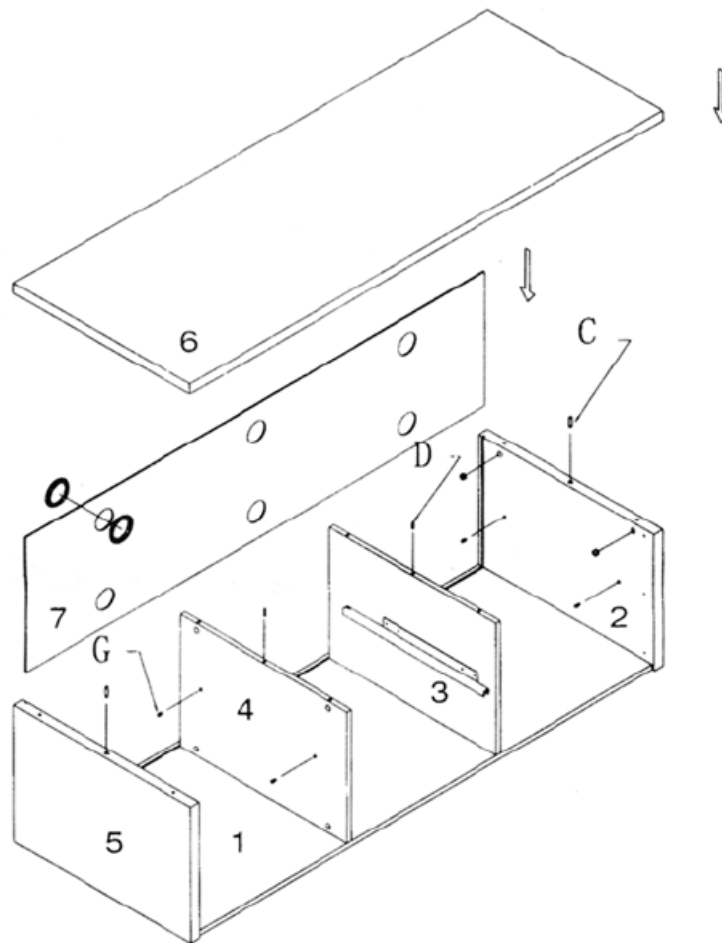

Fig. 2
9. CAREFULLY INSERT the back panel, part (7), into the grooves in the side panels (2) and (5) and CAREFULLY SLIDE the back panel down until it sits into the groove along the rear edge of panel (1) as shown in Fig. 2.
11. USING TWO PEOPLE, CAREFULLY lower the top panel (6) onto the unit making sure that the wood dowels (C) and (D) atop the end panels (2) and (5), and interior panels (3) and (4) are ALIGNED and fit into the holes on the underside of the top panel (6), and that the cam pins (M), installed in the top panel (6) are ALIGNED and fit into the holes atop the side panels (2) and (5). Using the Phillips tool, part (L), TIGHTEN the cam locks in the side panels (2) and (5), and center panels (3) and (4), by turning $\frac{1}{2}$ turn clockwise. DO NOT OVERTIGHTEN.